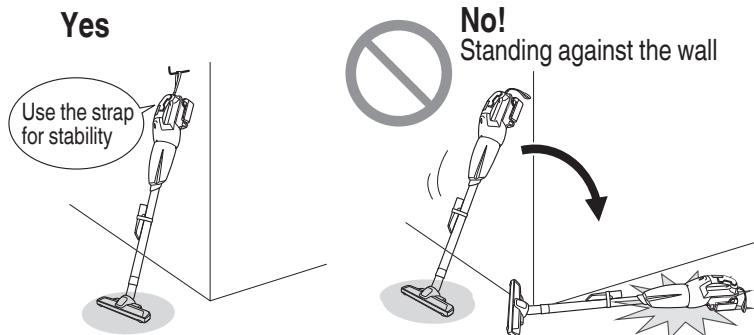

Fig. 24
- Do not stand the appliance against a wall without using the strap to fix it in place. (**Fig. 24**)